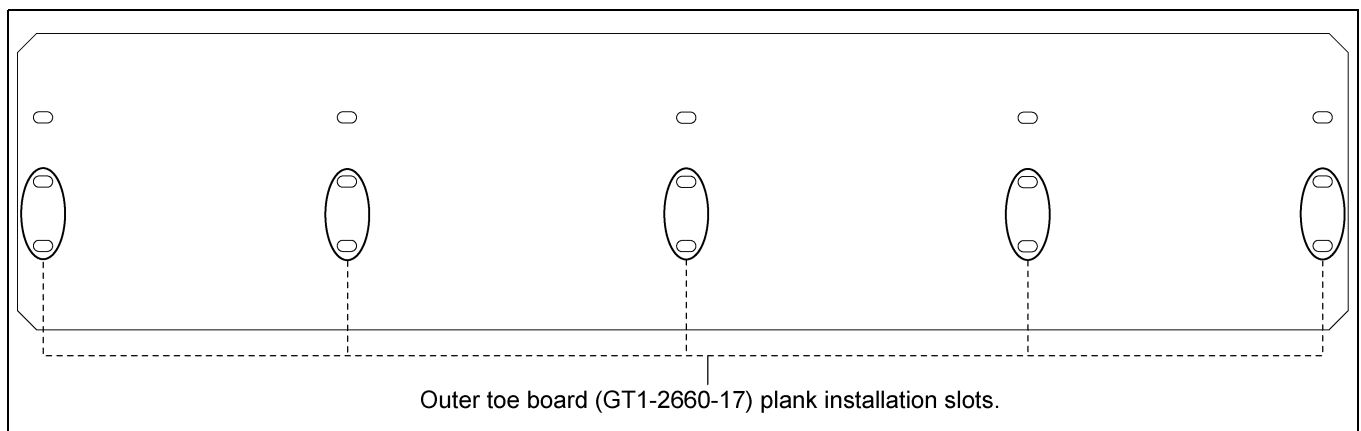

Figure 5H 17' Outer Toe Board (GT1-2660-17)
4. Outer toe board (GT1-2660-17) is arranged with many slots to install plank. Install planks to corresponding slots as shown in Figure 5H.